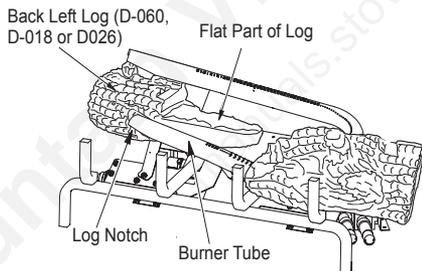

Figure 23 - Installing Back Left Log
2. Find the back left log (VFGT24 inch models: D-060 or VFGT30 inch models: D-018 or VFGT36 inch models: D-026). See Figures 23, 23A, and 23B. Figure 23A shows how the log must fit against the end of the burner. Figure 23B shows how the notch in log fits against the vertical portion of the burner tube. Place this log on the base assembly by inserting it from the left side as shown in Figure 23. You will need to twist the log slightly to get it to fit against the burners properly. It will rest even with the back edge of the pan.